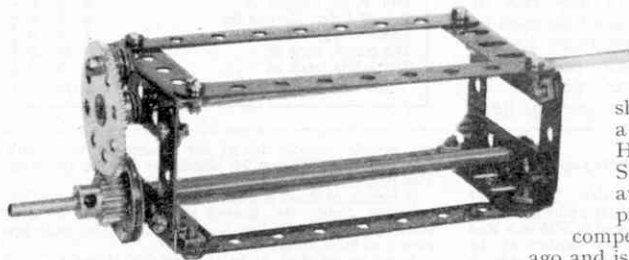

Fig. 1. Simple intermittent drive mechanism.
M. Tucker, Lyddington, Wiltshire, sent me details of a very simple intermittent drive mechanism he designed, and the arrangement shown in Fig. 1 is based on his idea. The mechanism is suitable for light drives, and as it requires only two gears it should prove useful to model-builders whose stocks of parts are limited.